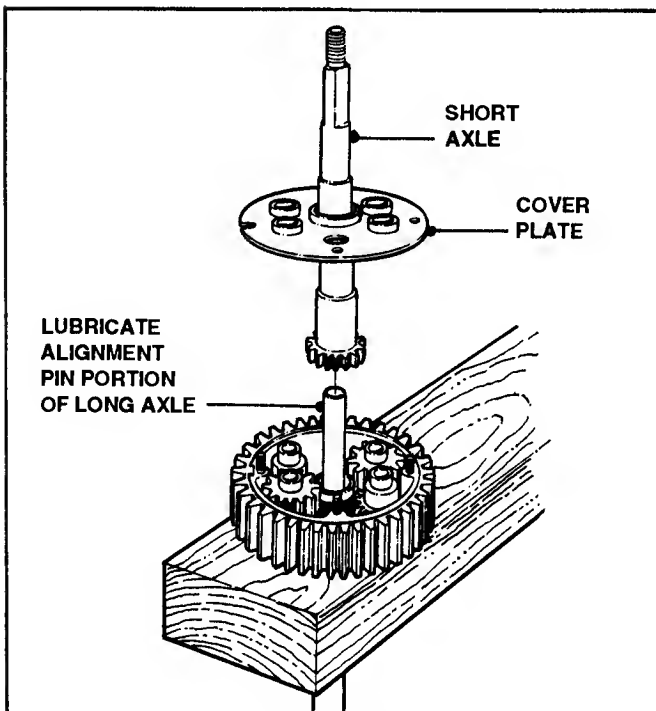

FIGURE 5.12
13. Slip Short Axle onto Pin. See Figure 5.12.
15. Install remaining Cover Plate. Refer to Figure 5.12.